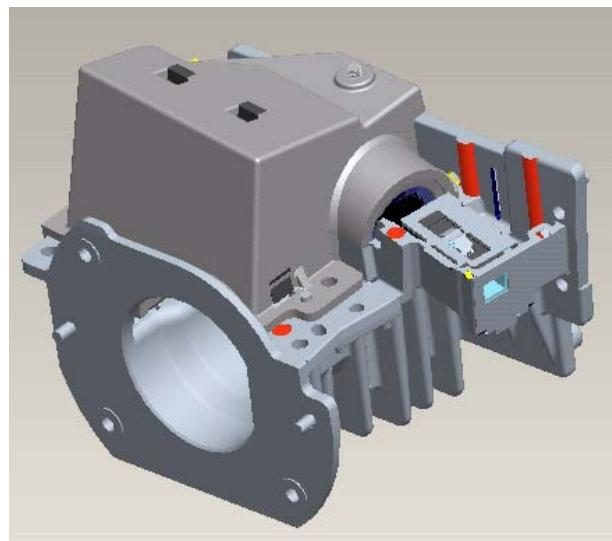

Fig. 9-2
9.2 Assemble “HSG ILL Module” to HSG DMD and cover over on “AL” (Fig. 9-2)